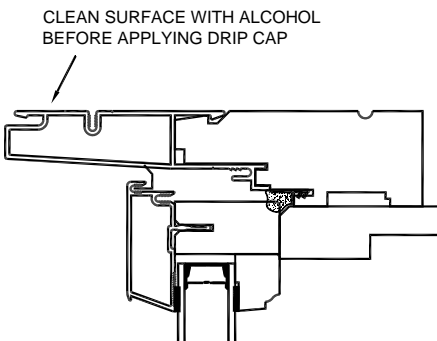

Fig 1
- Before applying the drip cap, clean the painted surface on the top of the window frame (where drip cap will be placed) with a 50% isopropyl alcohol solution (Fig 1).